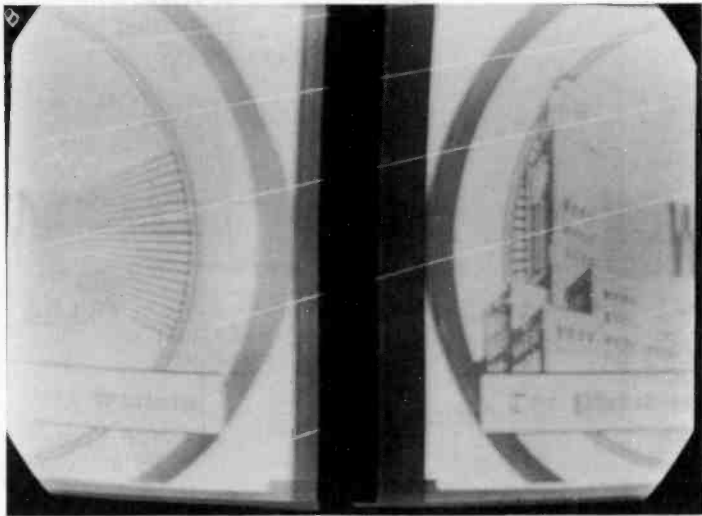

Fig. 7—Photograph of horizontal blanking and sync signals.
5. *The waveform of horizontal blanking and sync for each of the approximately 490 picture lines is shown at the top of each field in Fig. 2, and in more detail in Fig. 7.*